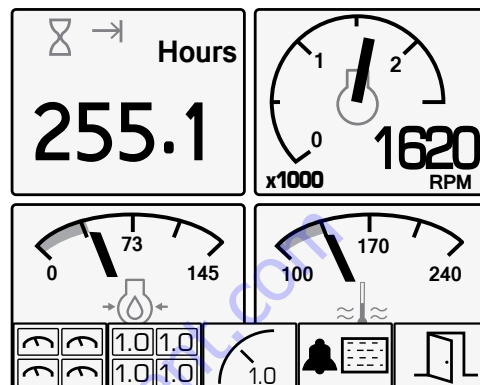

Figure 12. Button Bar
1. With the initial screen displayed, press any of the first white buttons to display the button bar on the bottom of the screen (Figure 12).